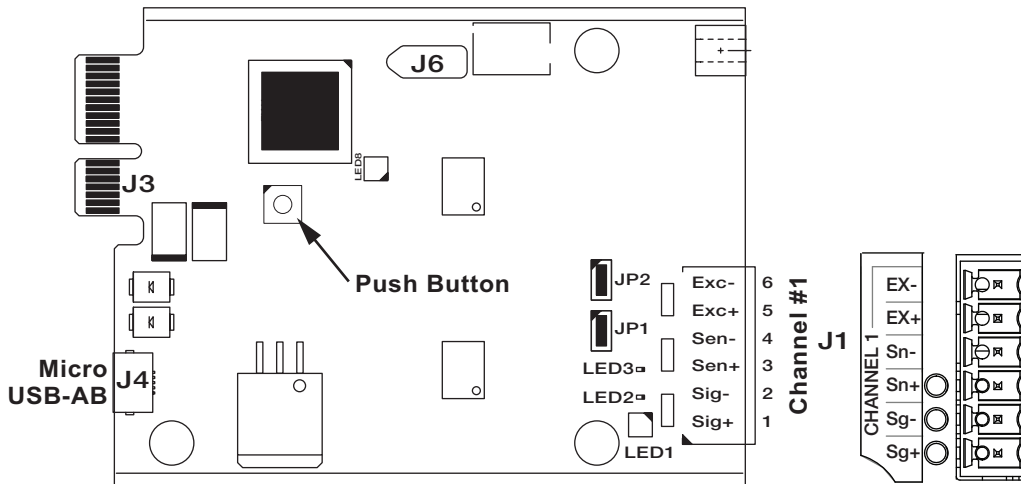

Figure 2. Single-Channel A/D Card
8. Wire the load cell cable from the scale to the connector (from the parts kit) for J1 as shown in Figure 2 and Table 3.